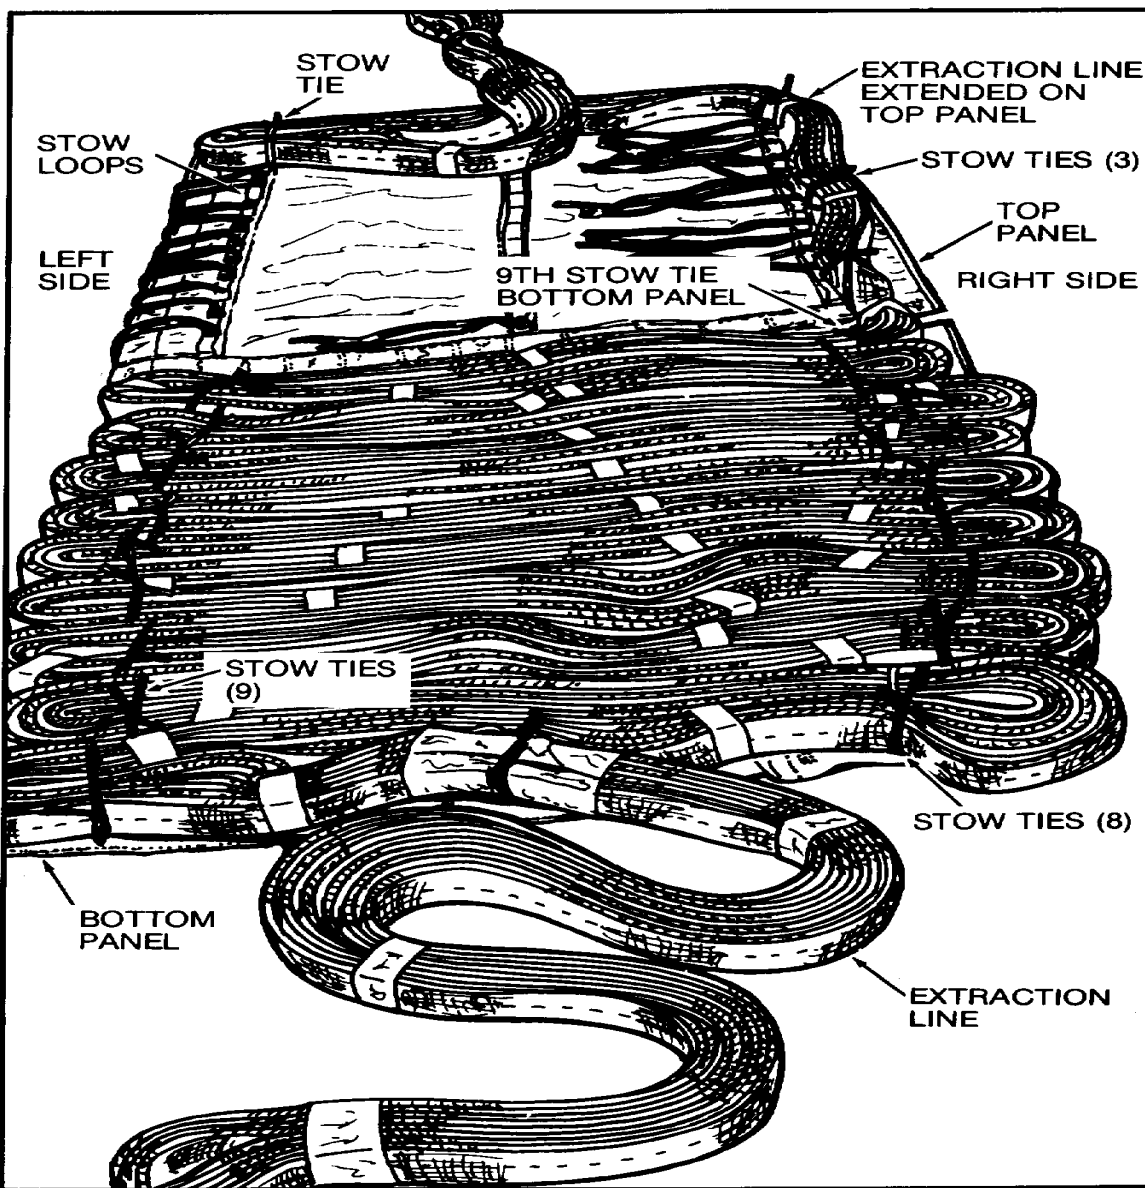

Figure 5. Extraction Line Stowed on Bottom Panel and Extraction Line Extended to Top Panel.
- e. Working from left to right, stow and secure extraction line on bottom panel (9 stows on left and 8 on right) with extraction line routed from bottom panel at upper right corner. Secure extraction line at 9th stow loop (right row) with previously installed stow tie. Secure ties with surgeon's knot and locking knot (figure 5).